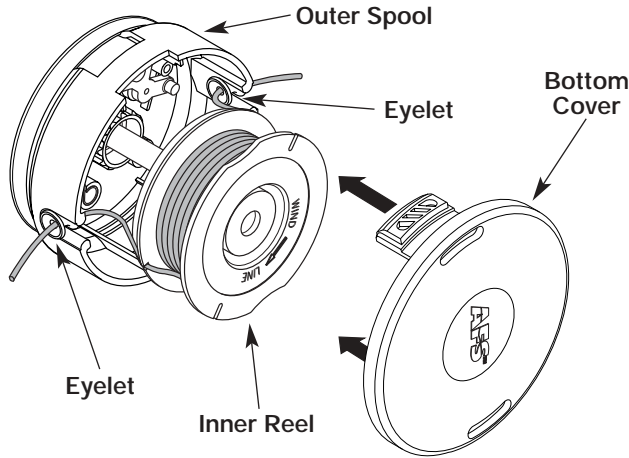

Fig. 17
14. Insert the ends of the line through the eyelets in the outer spool. Place inner reel inside the outer spool (Fig. 17).
3. Take the prewound inner reel and insert the ends of the line through the eyelets in the outer spool (Fig. 17).